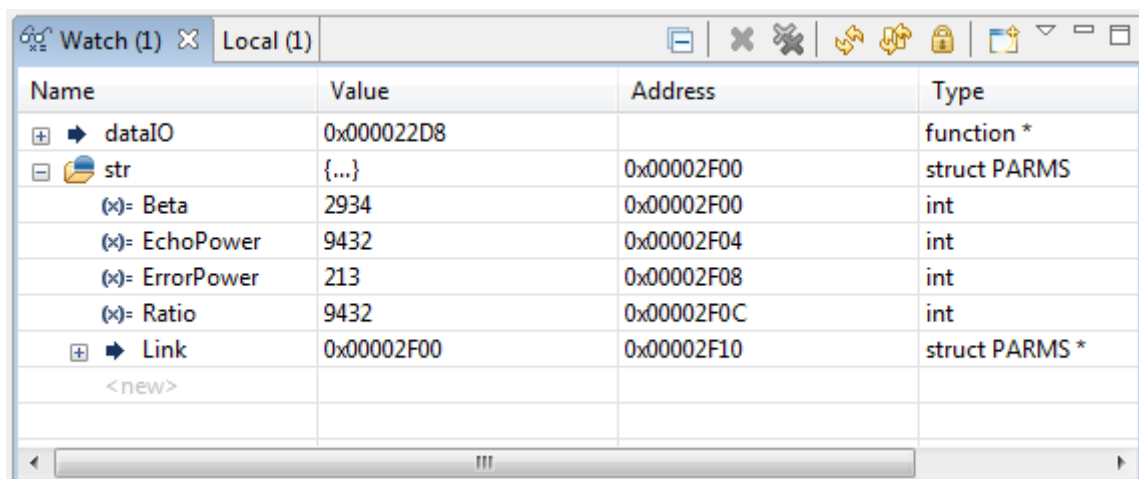

Figure 17: Expanding a watch by clicking the + sign
- Click once on the + sign next to **str**, to expand this line to list all the elements of the structure and their values. (See figure 17, the address values may vary.)